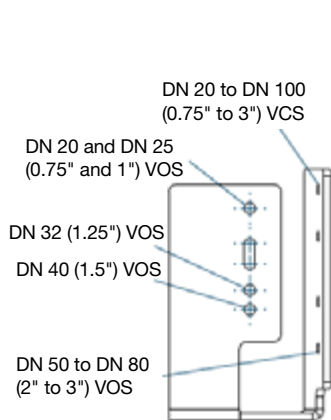

Figure 4:
- Note wand position and mounting hole location. Carefully remove the 2 screws and lift existing switch. Reference Figures 4 through 9 on page 50 (ADD SWITCHES) to ensure correct switch location.
- Reference Figures 4 through 9 (below) to ensure correct switch location. Valve size is depicted in the model number by the first 4 dig- its. For example, a DN80 (3") CP valve should have Model No. 300C.